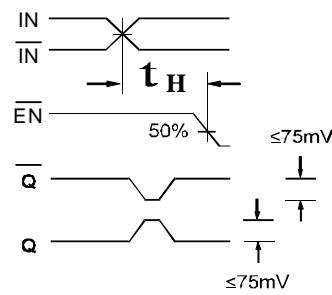

Figure 2. Hold Time
6. The hold time is the minimum time that EN must remain asserted after a negative going IN or a positive going IN to prevent an output response greater than $\pm 75 mV$ to that IN/ IN transition (see Figure 2).